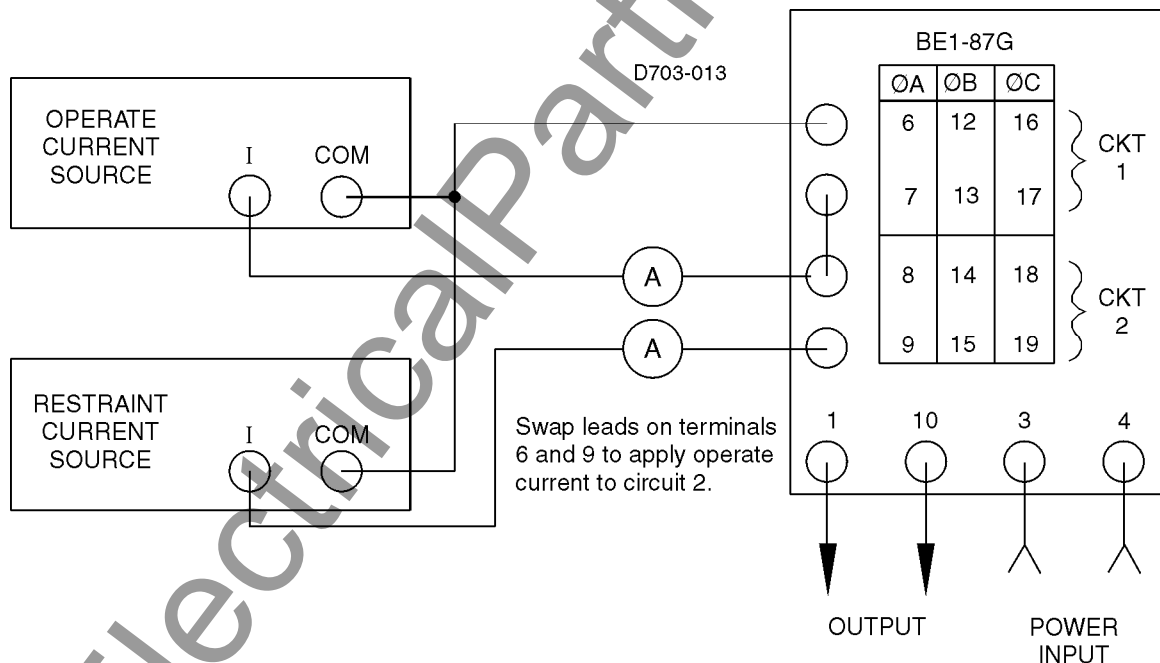

Figure 5-2. Operational Test Setup
1. Connect the test setup shown in Figure 5-2. Current sensing connections should be made at terminals 6, 7, 8, and 9.